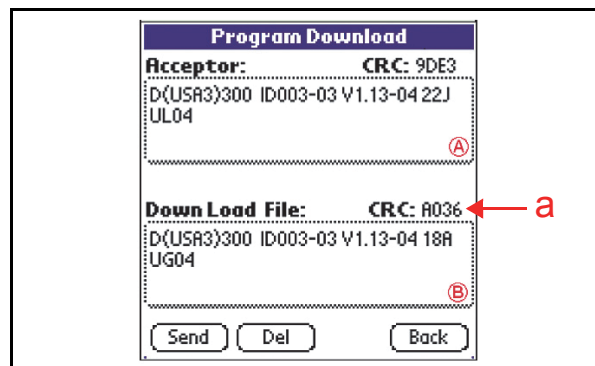

Figure 6-7 Taiko Palm Program Download Screen
- e) When the Cyclic Redundancy Check Sum (CRC) is displayed (See Figure 6-7 a), the conversion is complete.
- d) Tap on the On the Palm Pilot® start-up screen DWN-03 Icon. The **Program Download** Screen shown in Figure 6-7 will then appear.
7. Tap on area ? shown in Figure 6-7 and the Software Version information currently installed in the Taiko™ Unit will appear.
9. Tap on the send Screen Button to begin downloading if the Yellow LED is lit steady (ON).